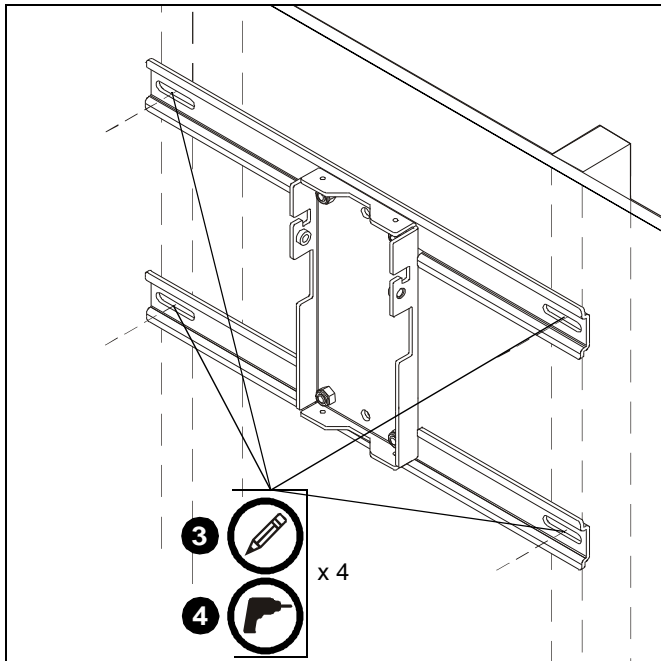

Figure 4
2. Line up four holes on mounting bracket with center of studs at desired mounting location. (See Figure 4)
3. Using mounting bracket as a template, mark four holes at the four holes in bracket. (See Figure 4)
4. Drill four 1/2" holes at marked locations on wall. (See Figure 4)